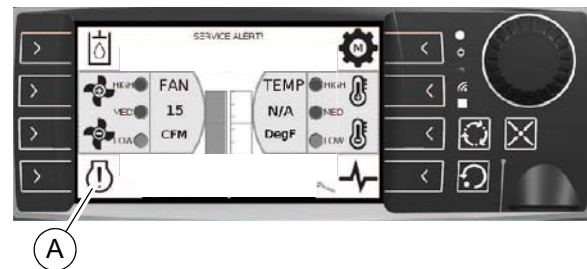

Figure 2-25. Engine and Fuel Icon (A)
See Figure 2-25. When the Engine and Fuel icon displays (A), press corresponding button once.